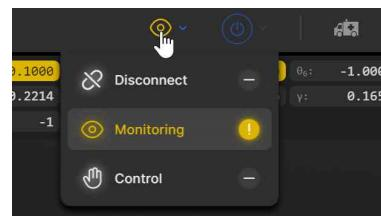

Figure 24: Connection state button
1. Click on the connection state button on the top right of the MecaPortal and select "Control" (see Figure 24).